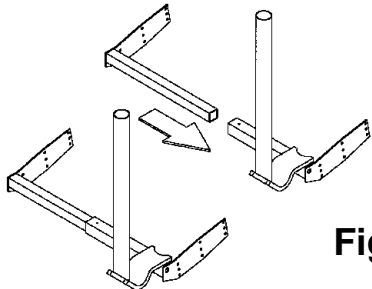

Fig 2.
- 2** Assemble the two sections of the mount as shown in fig 2.